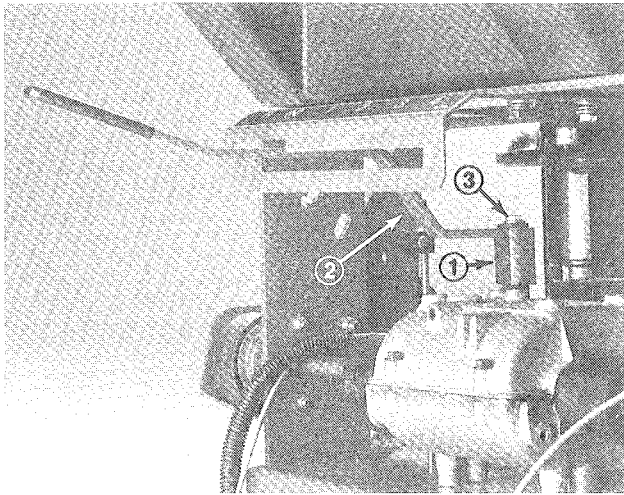

Figure 3
2. Insert shift lever thru slot in control panel and align mounting hole in lever with mounting block on transmission. Secure lever to transmission with 1/4-28 x 2" lg. capscREW and plain washer. Torque capscREW to 100-125 in. lb. (Fig. 3).